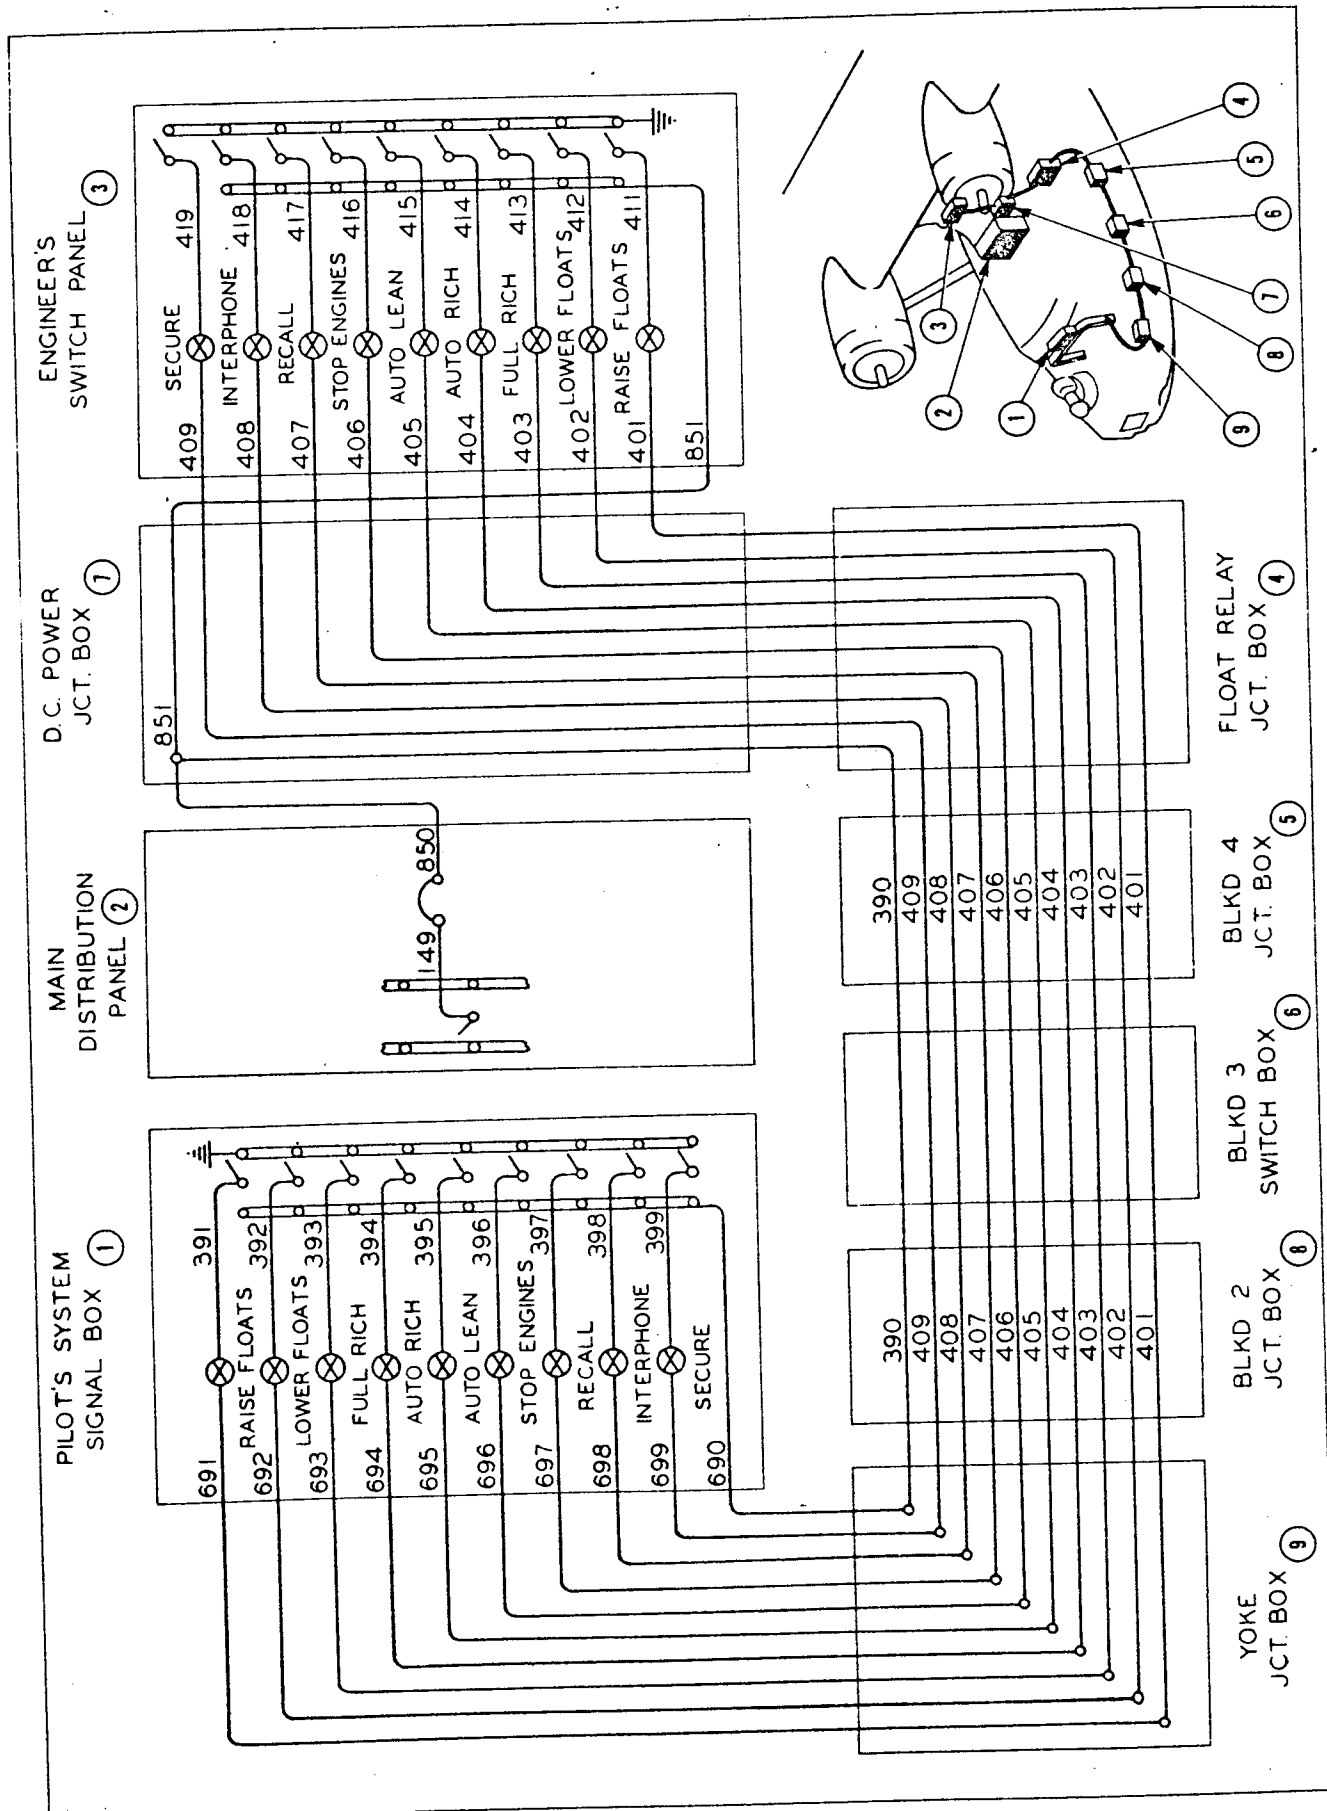

Figure 248—Signal System Light Circuit
(1) DESCRIPTION. (See figure 248.)—The signal system lights work as a visual signal system between the pilot and engineer. The system consists of two duplicate sets of indicating lights and switches. One set of lights is located in the pilot's signal panel on the pilot's yoke; the other set is located on the engineer's panel.
(a) Check wiring in junction boxes shown on wiring diagram. (See figure 248.)